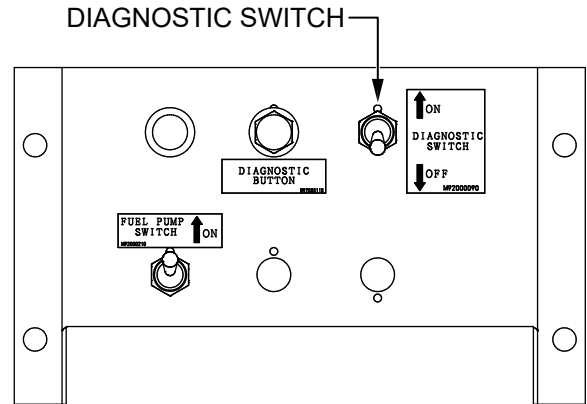

Figure 30. Diagnostic Switch (OFF Position)
1. Make sure the **Diagnostic switch** (located inside the control box) is placed in the **OFF** position. See Figure 30. Make sure the control panel is closed properly before proceeding.